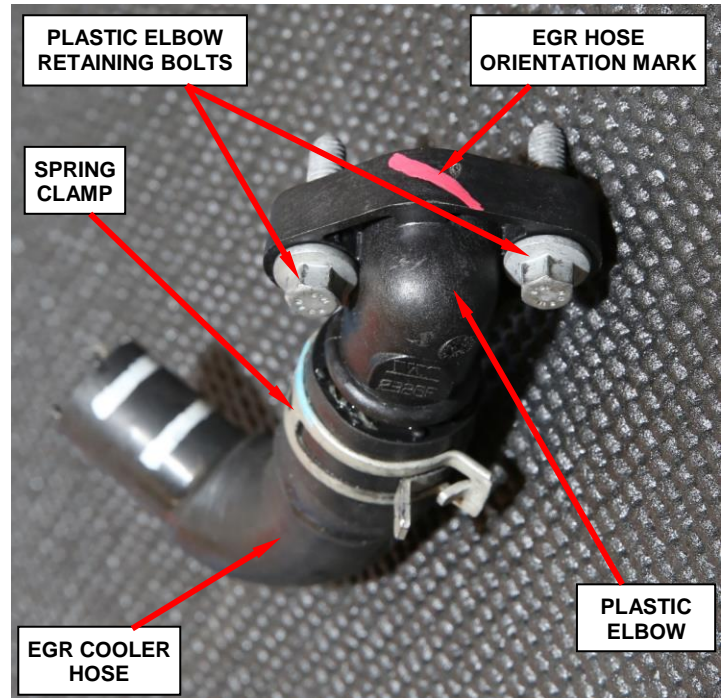

Figure 10 – Plastic Elbow Retaining Bolts
24. Remove and save the two plastic elbow retaining bolts (Figure 10).
27. Place an index mark on the plastic elbow to insure the new EGR cooler hose is installed on the plastic elbow in the proper orientation (Figure 10).
28. Remove and discard the original EGR cooler hose from the plastic elbow (Figure 10).
33. Install the two plastic elbow retaining bolts and tighten them to 90 in. lbs. (10 N·m) (Figure 10).